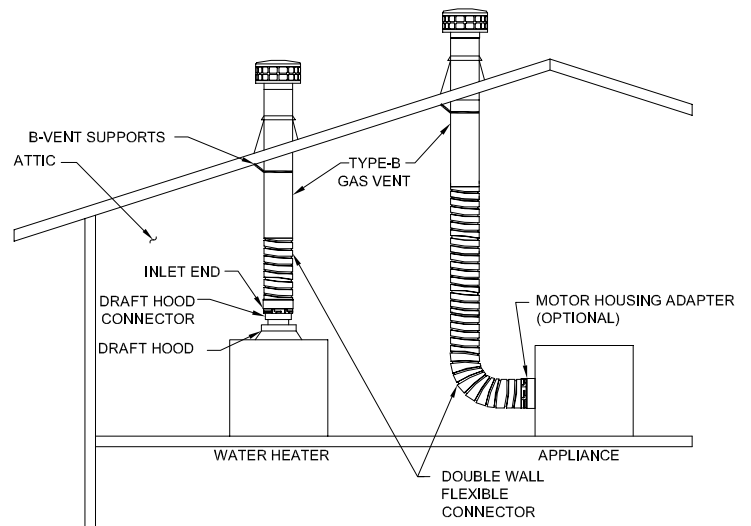

FIG. 6
5. When used as a segment of Type-B gas vent in an unenclosed area, such as an attic or crawl space, install the double wall flexible connectors shown in FIG. 6.